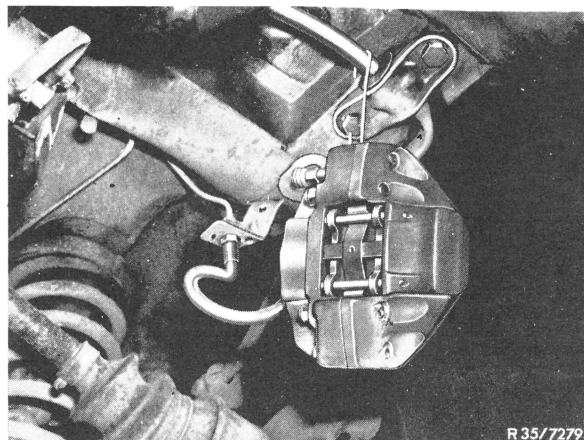

Fig. 1
- 2 On vehicles without starting torque compensation, unscrew brake caliper at the right and suspend on hook (Fig. 1).